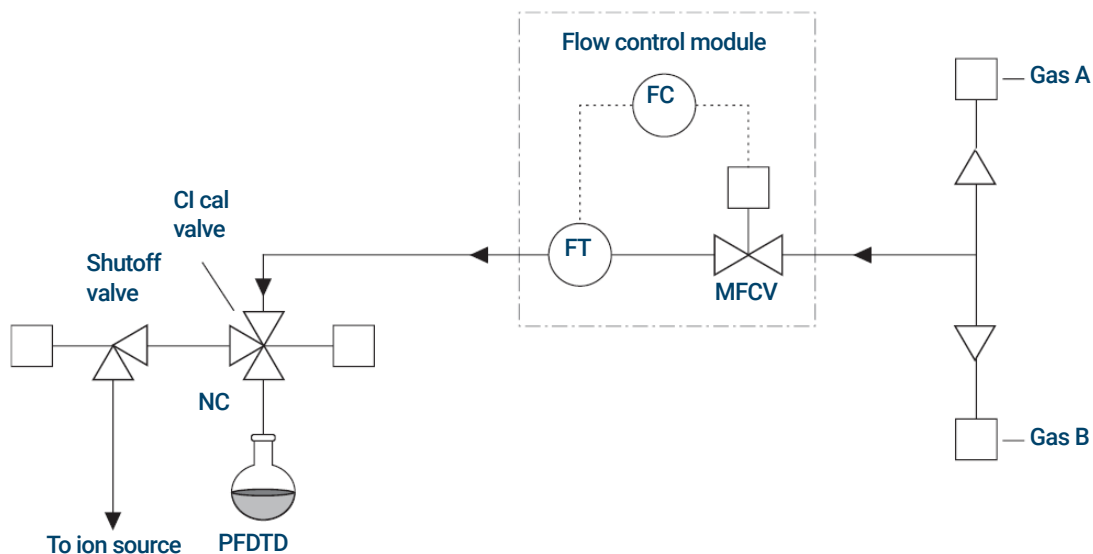

Figure 6. Schematic of CI flow control
- 1 See **Figure 6**, "Schematic of CI flow control," on page 54 and **Table 4**, "Flow module valve state diagram," on page 54.
- Close valves starting at the gas select valves (Reagent gas and Carrier gas purge), then close the shutoff valve. See **Figure 6**, "Schematic of CI flow control," on page 54 and **Table 4**, "Flow module valve state diagram," on page 54.